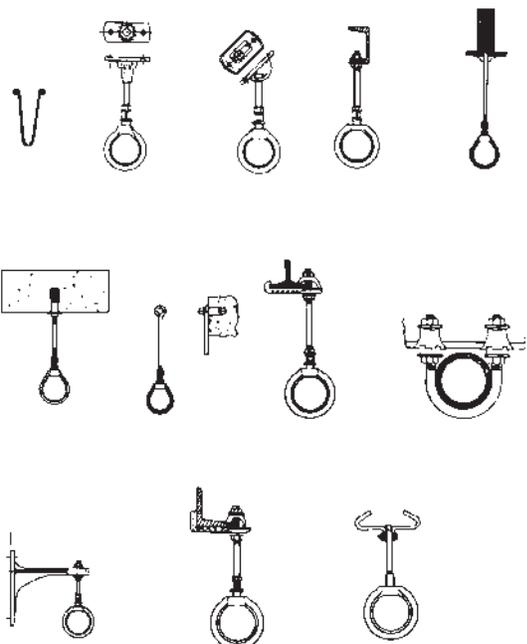

FIGURE 6-9
- The hangers must be UL listed and rigidly supported. The Hanger Application Table and Figure 6-9 list some typical hangers used for different mounting surfaces.